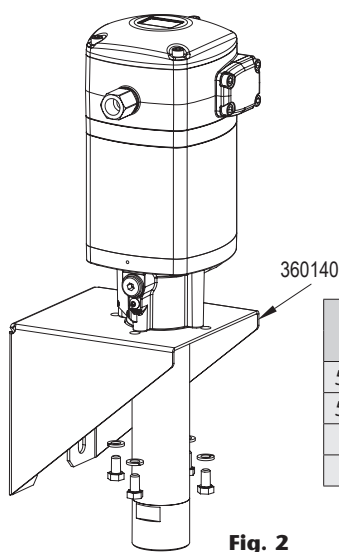

Fig. 2
- Wall mounting with screws. Insert the pump through the wall bracket 360140 and fix it with 4xM8 screws (fig. 2).